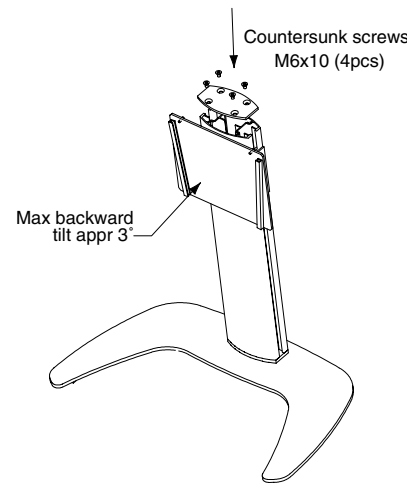

Figure 3
- ③ Attach column top to column using four (4) M6 x 10 screws (see Fig. 3).